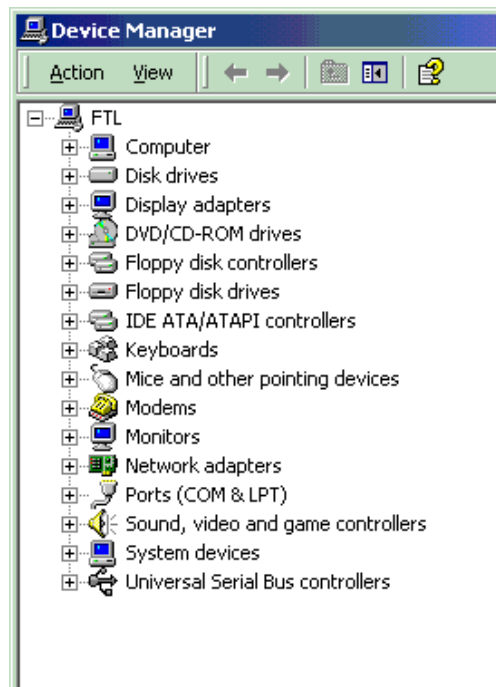

Figure 15. Device Manager Window
2. Click the **Hardware** tab. Then click **Device Manager**. The Device Manager window opens (Figure 15).